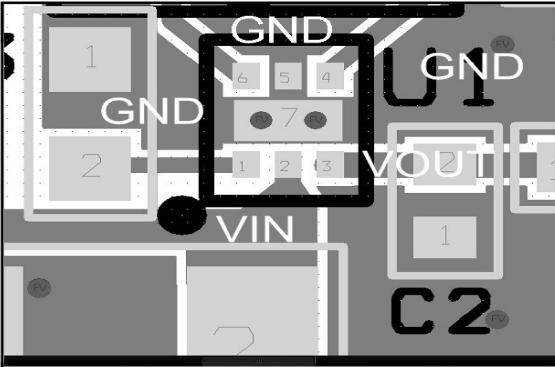

Figure 27: Proper layout of output and ground copper area
3. The  $V_{IN}$ ,  $V_{OUT}$  and GND pins will dissipate most of the heat generated during a high load current condition. Using wide traces will help minimize parasitic electrical effects along with minimizing the case to ambient thermal impedance. The layout suggested in Figure 27 provides each pin with adequate copper so that heat may be transferred as efficiently as possible out of the device. The low-power FLAGB and ON pin traces may be laid-out diagonally from the device to maximize the area available to the ground pad. Placing the input and output capacitors as close to the device as possible also contributes to heat dissipation, particularly during high load currents.